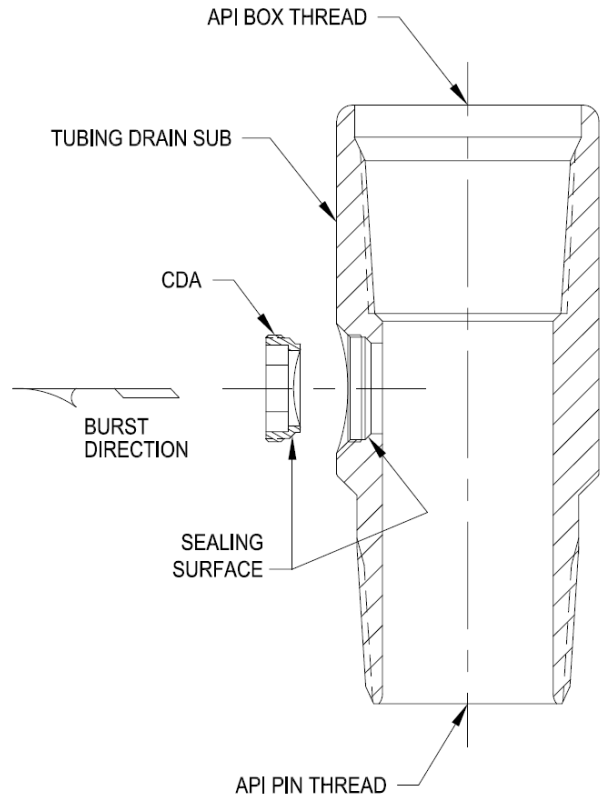

Figure 1 - Hydraulic Tubing Drain (HTD)
3. Put a liberal amount of anti-seize compound on the threads of the Circulating Disc Assembly (CDA), see Figure 1. It is a good practice to put a small amount of anti-seize on the sealing surface. (Fike recommends mineral oil-based pastes containing solid lubricants, powdered metals and corrosion inhibitors. Two common ones are: Molykote 1000 Anti-Seize Lubricant by Dow Corning and Thred Gard Anti-Seize Compound Copper by Federal Process Company.)